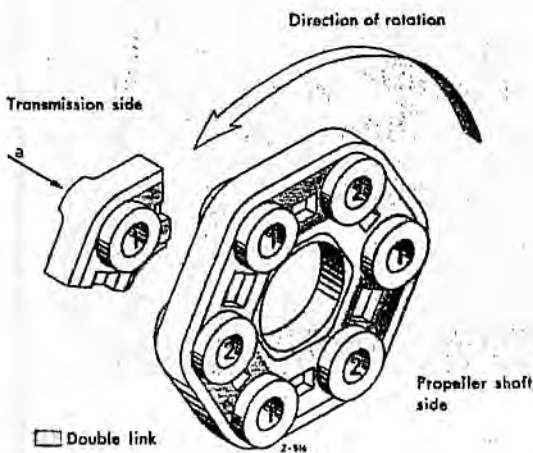

Fig. 41-1/10
a) Grease fitting (8) for the center cross on the front propeller shaft (Fig. 41-1/9).